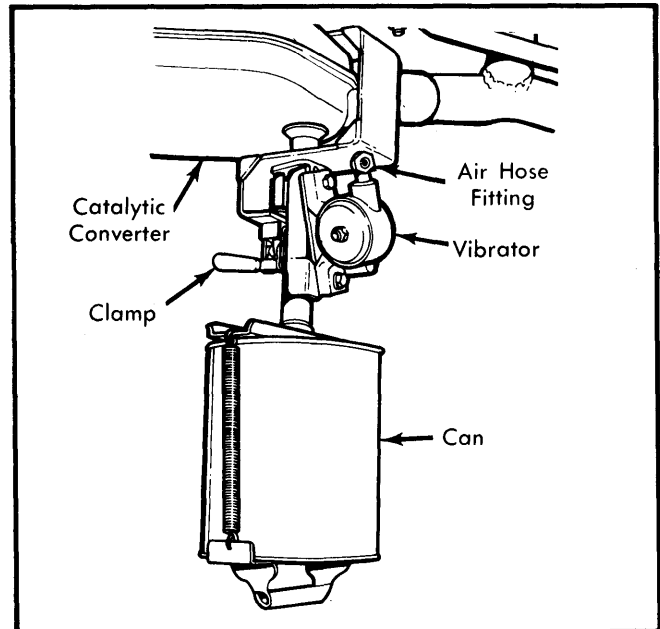

**Fig. 4 Vacuum Aspirator Installation
- 1) Raise vehicle and attach vacuum aspirator device (J-25077 or equivalent) to exhaust pipe as shown in Fig. 4.